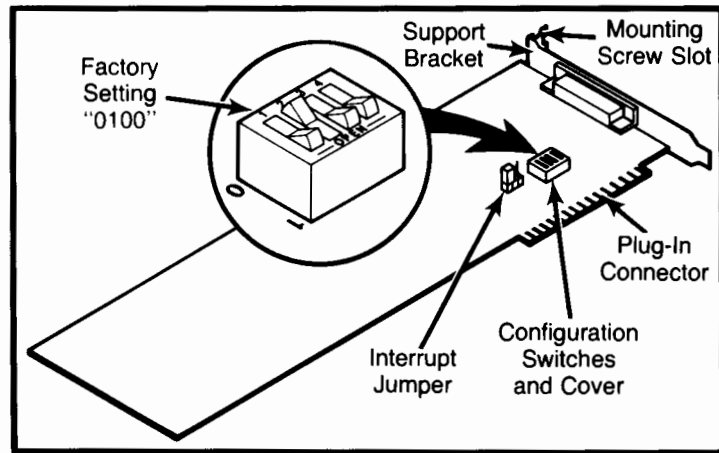

Figure 2-4. Configuration Switches
6. Each peripheral device in your computer system is assigned an address which designates the location of system memory dedicated for its use. Configuration switches on the HP 88290A interface card set the system address for ScanJet; see Figure 2-4. Hewlett-Packard sets the configuration switches at the factory to an address which will work for most systems.
Check the configuration switches on your interface card to make sure they are set as shown in Figure 2-4. You need not change the interrupt jumper setting.